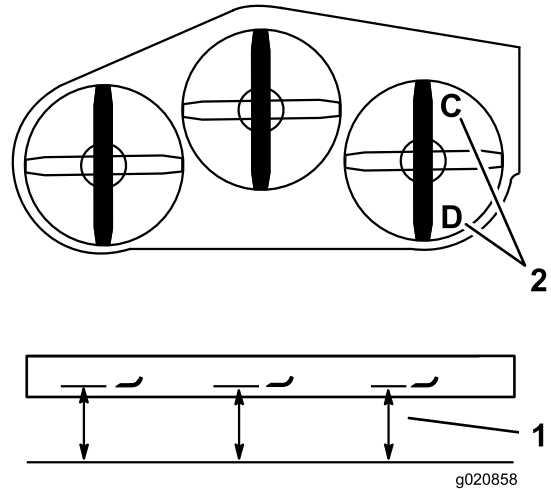

**Figure 82**
**Note:** This distance needs to be 11 mm (7/16 inch) as shown in Figure 82.
12. Loosen the jam nut and adjust the adjustment bolt to achieve the correct distance as shown in Figure 82.